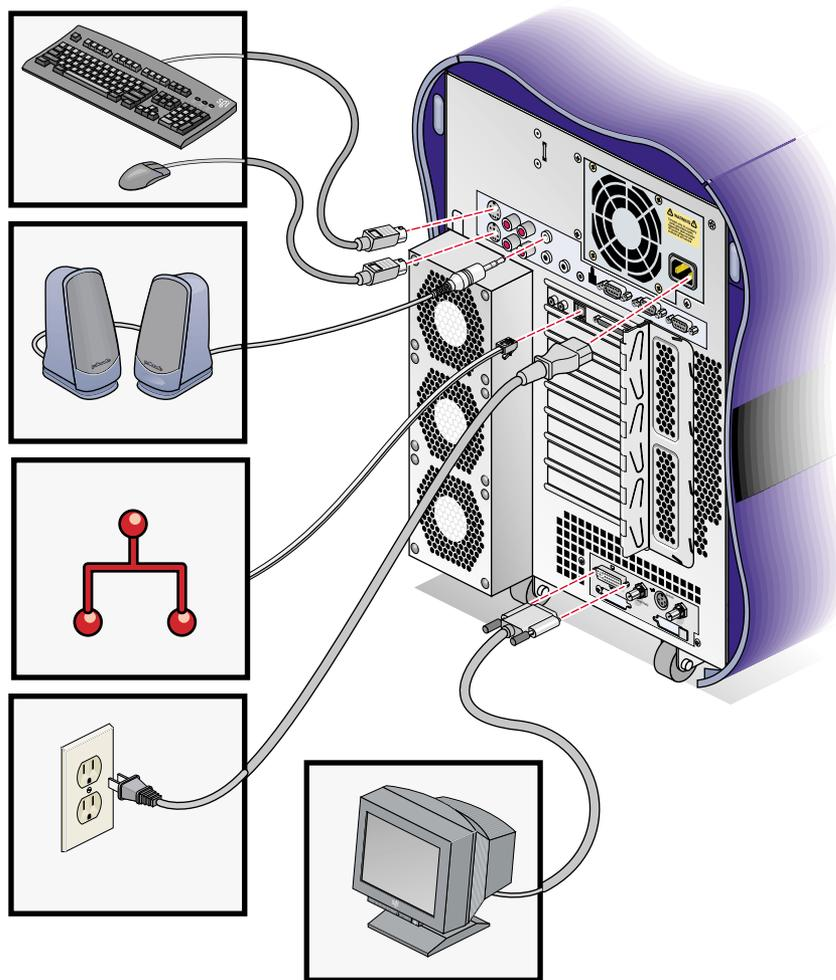

Figure 3-7 Reconnecting the Cables to the Workstation
1. Reconnect all of the system cables to the rear of the enclosure (see Figure 3-7).